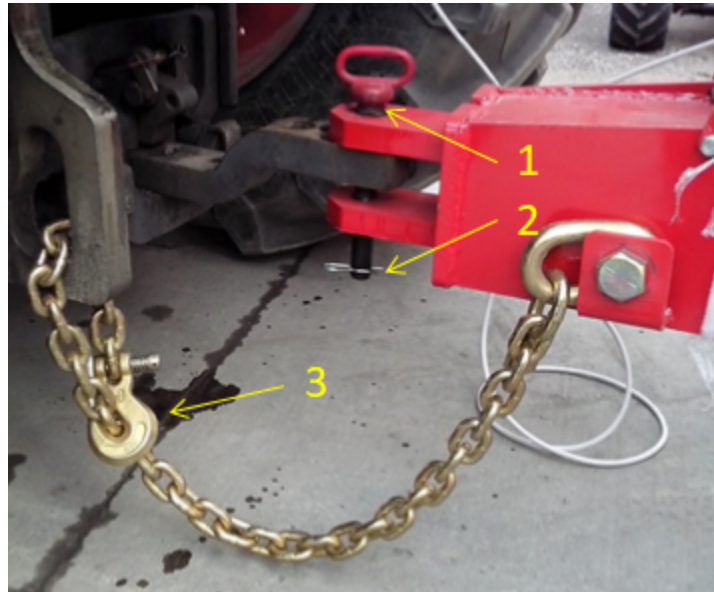

Figure 11 — Hitching to the Tractor
5. Remove the cotter pin from the hitch pin, remove the hitch pin, and remove the safety chain (Figure 11).